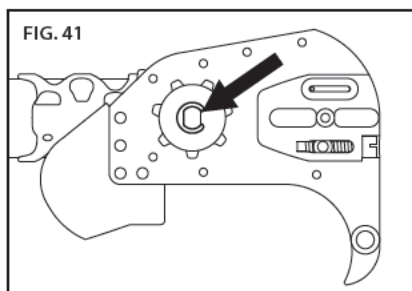

FIG. 41
- Use a small flat screwdriver to pry open and remove the e-clip, then remove the drive sprocket and washers (Fig. 41).